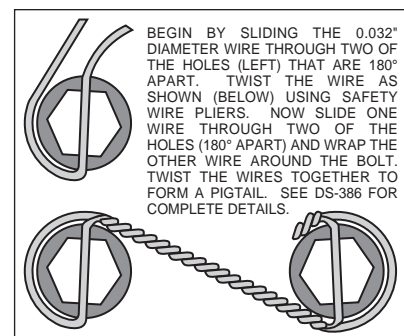

Figure 2. Safety Wire Diagram
- Pack the large inner bearing cone (6) with high temperature disc brake bearing grease (available from your local auto parts store) and install into the backside of the hub (5).
- Install the grease seal (7) into the backside of the hub (5).
- Pack the small outer bearing cone (13) with high temperature disc brake bearing grease and install into front side of the hub (5). Slide the hub assembly (5, 6, 7 and 13) onto the spindle. Secure using spindle washer (14), stock adjusting nut, and nut locking device. Adjust wheel bearing pre-load per Original Equipment Manufacturer (OEM) specifications.
- Install the o-ring (16) and the dust cap (15) into the hub (5). **NOTE:** O-ring (16) friction will not allow cap (15) to unscrew on its own.
- With the larger I.D. side of the rotor (8) facing away from the hat (9), bolt rotor (8) to hat (9) through the backside of the rotor using washers (10) and bolts (11). Using an alternating sequence, apply red *Loctite*® 271 to the threads and torque bolts to 25 ft-lb. For an added measure of security, the bolts may be safety wired using standard 0.032 inch diameter stainless steel safety wire as shown in Figure 2. Please refer to Wilwood's data sheet DS-386 (available at [www.wilwood.com/Pdf/DataSheets/ds386.pdf](http://www.wilwood.com/Pdf/DataSheets/ds386.pdf)) for complete safety wire installation instructions.
- Slide the rotor/hat assembly over the studs (4) in the hub (5) taking care to align the small countersunk holes in the hat (9) with the small threaded holes in the hub (5). Install three flat head socket head screws (12) through the small holes in the hat (9) and torque to 85 **in-lb**.